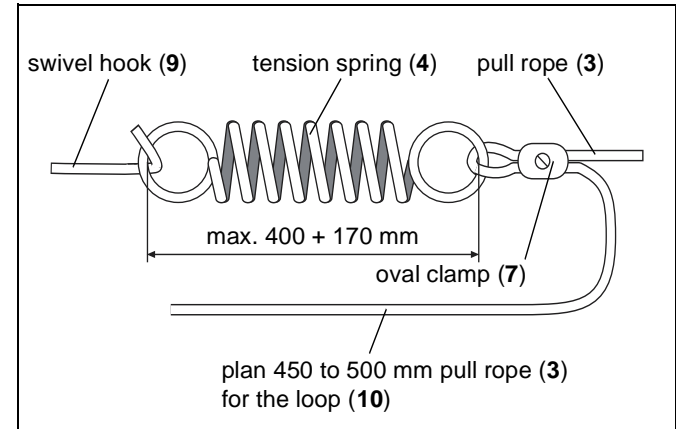

Fig. 5-3: Fastening the pull rope to the tension spring
- Hang the tension spring (4) into the swivel hook (9) (s. fig. 5-3).
- Stick one end of the pull rope (3) through the eyelet of the tension spring (4). Pull the pull rope (3) approximately 450 to 500 mm through the eyelet so that you can form a loop (10) from the end as a *conclusion* of the mounting (s. fig. 5-3).
6. Fasten the pull rope (3) with an oval clamp (7) to the tension spring (4) (s. fig. 5-3).